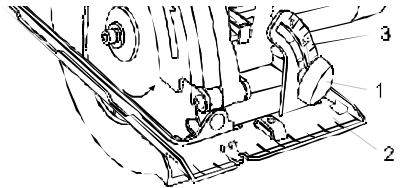

Fig. 6
1. Loosen the bevel gauge adjustment knob (1) by turning it counter-clockwise (Fig. 6).
2. Rotate the sole plate (2) to the desired angle as shown on the gauge (3), and the alignment mark.